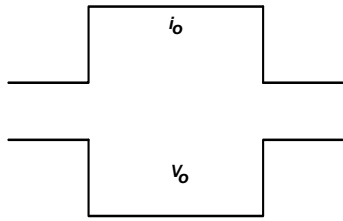
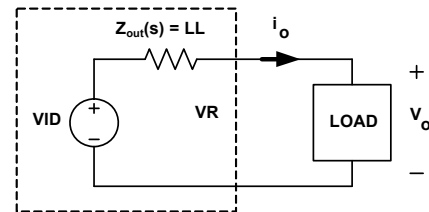

FIGURE 18. DESIRED LOAD TRANSIENT RESPONSE WAVEFORMS
FIGURE 24. VOLTAGE REGULATOR EQUIVALENT CIRCUIT
Assuming the compensator design is correct, Figure 18 shows the expected load transient response waveforms if C_n is correctly selected. When the load current I_{core} has a square change, the output voltage V_{core} also has a square response.
Figure 18 shows the desired load transient response waveforms. Figure 24 shows the equivalent circuit of a voltage regulator (VR) with the droop function. A VR is equivalent to a voltage source (= VID) and output impedance $Z_{\text{out}}(s)$. If $Z_{\text{out}}(s)$ is equal to the load line slope LL, i.e., constant output impedance, in the entire frequency range, V_o will have square response when I_o has a square change.